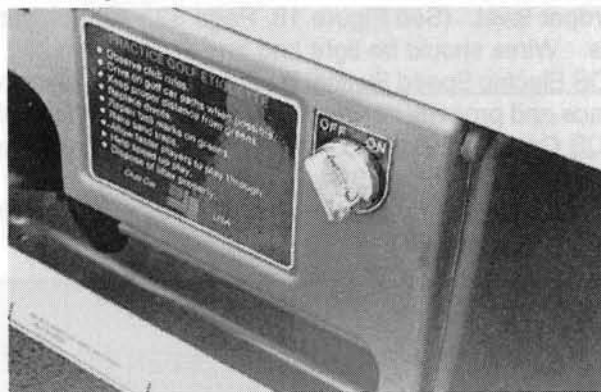

Figure 2
KEY SWITCH - The key switch is mounted on the dash to the right of the steering column. (See Figure 2.) It has two (2) positions, "OFF" and "ON" which are clearly labeled.